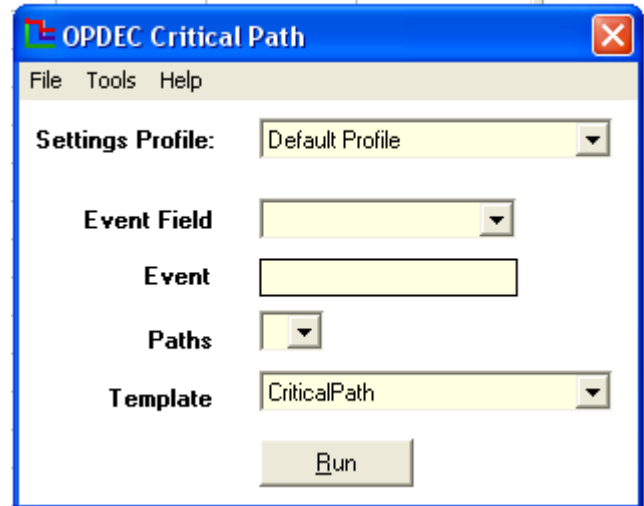

Figure 5
- 1) Enter the field that contains the event you are going to measure. Options are Unique ID, ID, or the settings default in which case would be the “Event Identification” field specified in the settings. (Figure 5)